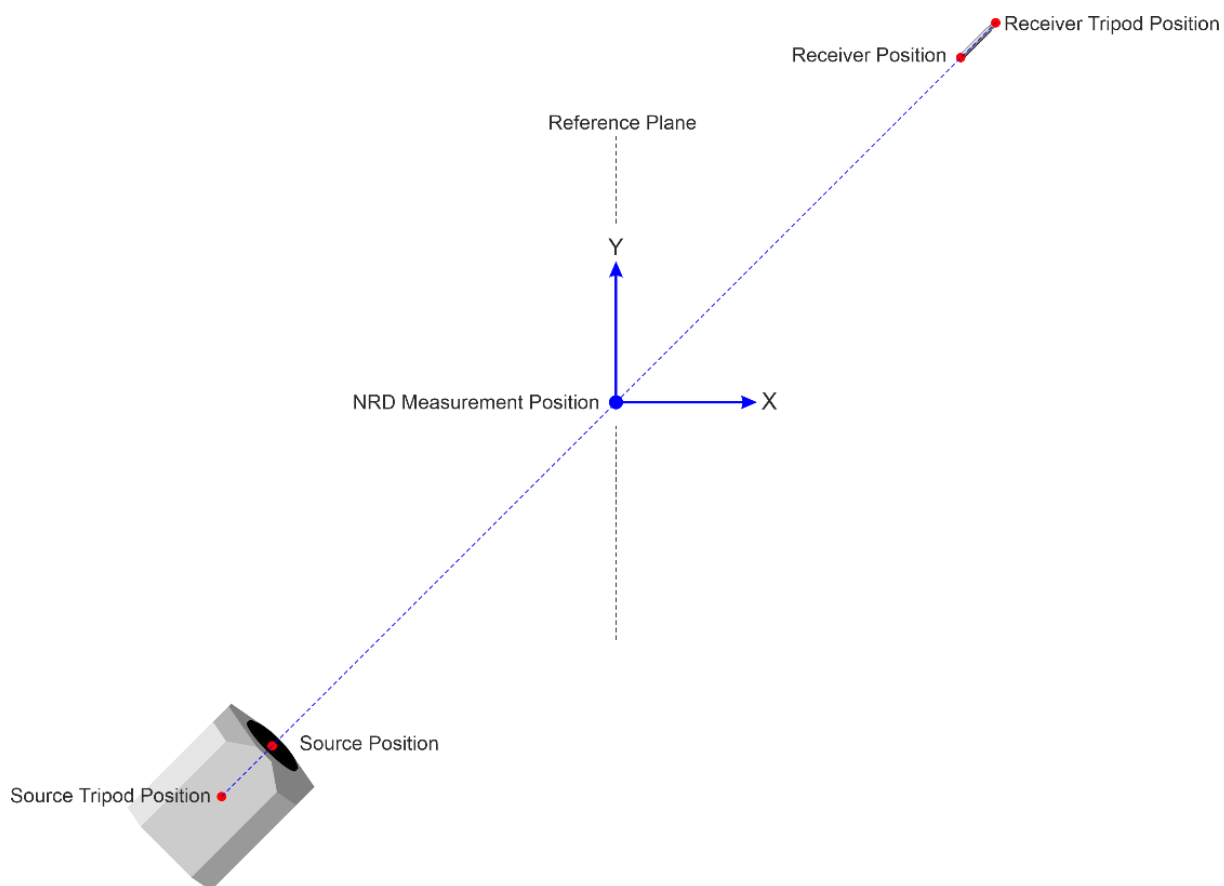

Figure 1. Definition of tripod positions relative to the NRD Measurement Position.
Table 1 shows the nominal angles and tripod center positions for each of the four setups with Source positions S1 through S4. The x and y coordinates are relative to the NRD Measurement Position as defined in Figure 1. The z coordinates are relative to the NRD height. Details on the calculations of the angles and positions can be found in Chapter 6 (Appendix).
- YL = LS24 tripod y-coordinate relative to the NRD Measurement Position as defined in Figure 1
- YM = MA25 tripod y-coordinate relative to the NRD Measurement Position as defined in Figure 1